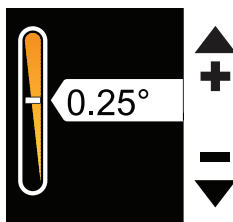

Figure 18 – Set custom warming rate
2. If you select Set Custom, tap the Increase and Decrease buttons to set the rate (Figure 18).